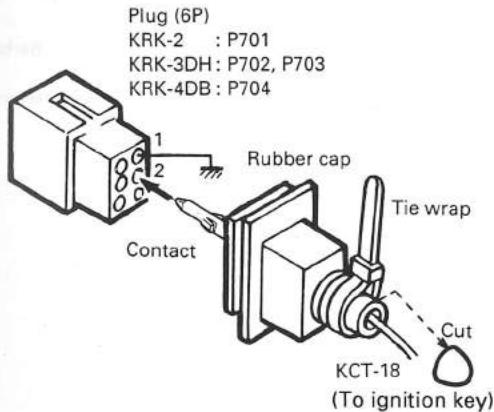

Fig. 8-b
- When you use the remote kit (KRK-2, KRK-3DH, or KRK-4DB) (Fig. 8-b)